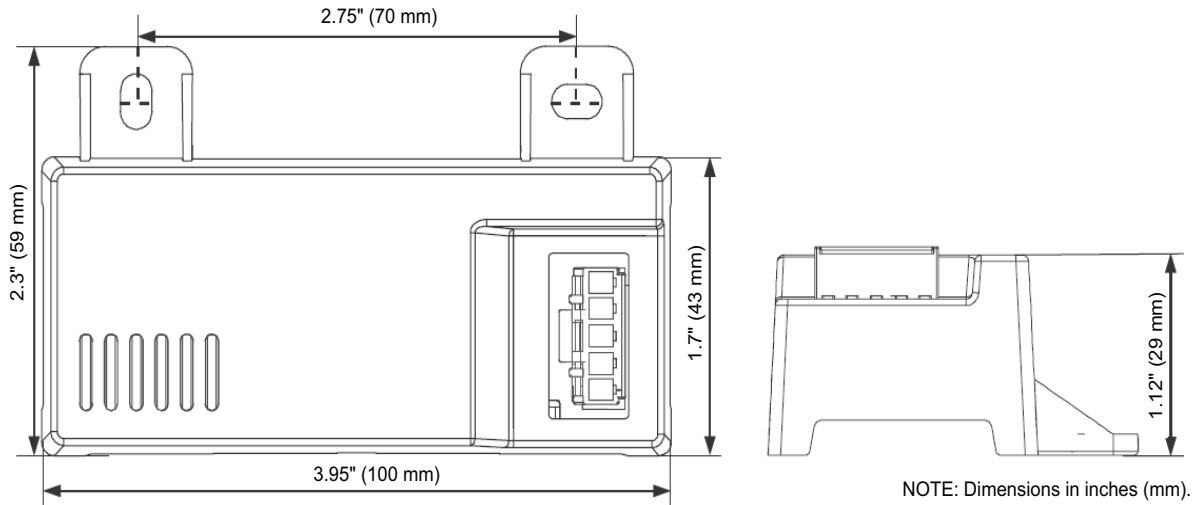
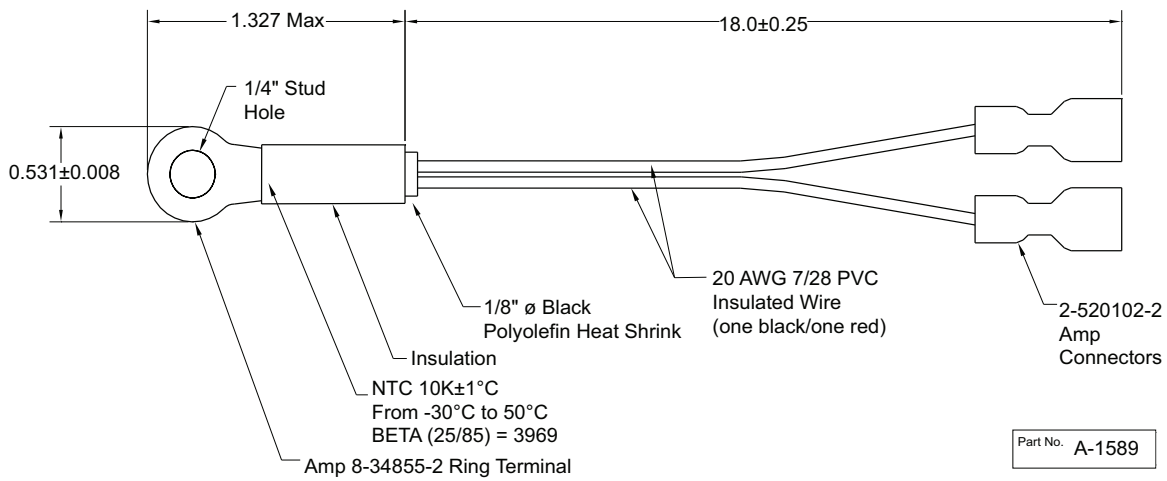
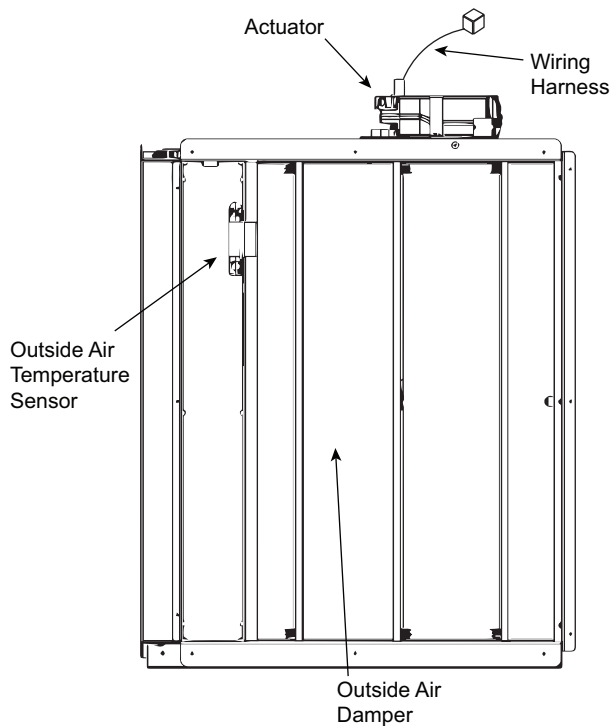

Fig. 65 — 1196582 Dimensional, Connection and Switching Information
Fig. 66 — 1193547 Dry Bulb and Mixed Air Sensor Wiring
Fig. 67 — EconomizerONE Component Locations (CRECOMZR108A00 Shown)
When using the 1196582 enthalpy sensor (see Fig. 65) for outside air changeover, the existing 1193547 dry bulb sensor (see Fig. 66) must be removed. The enthalpy sensor will be mounted in the same location as the dry bulb sensor (see Fig. 67). When the enthalpy sensor's OA (Outside Air) temperature, enthalpy, and dew point are below their respective setpoints, the outside air can be used for free cooling. When any of these are above the setpoint, free cooling will not be available. Enthalpy setpoints are configurable and create an enthalpy boundary according to the user's input. For additional details, see Fig. 68-69 and Table 31.
The optional enthalpy control sensor (P/N: 1196582) communicates with the POL224 economizer controller using the 5-wire harness, 1201876. The 1196582 sensor can be used as a single outside air enthalpy, a differential return enthalpy, or a differential return temperature sensor. Refer to the base unit control wiring diagrams found earlier in this book to wire the 1196582 enthalpy sensor for each option. Use Fig. 65 and Table 33 on page 53 to locate the wiring terminals for each enthalpy control sensor.
Economizers are shipped standard with an 1193547 outside air dry bulb sensor (see Fig. 66). System default setting (high temp limit) is 63°F (17°C) and has a range of 48°F to 80°F (9°C to 27°C). Sensor is factory installed on economizer.
If installing the optional 1196582 enthalpy sensor, the 1193547 dry bulb outside air sensor must first be removed. Wire sensor to harness 1201876 and the (5) wires from the harness to the EconomizerONE harness in the return air chamber. Harness 1201876 has a 5-pin plug that connects directly to the 1196582 enthalpy sensor. Refer to the base unit control wiring diagrams earlier in this book for wiring connections. Refer to Fig. 65 and Table 33.